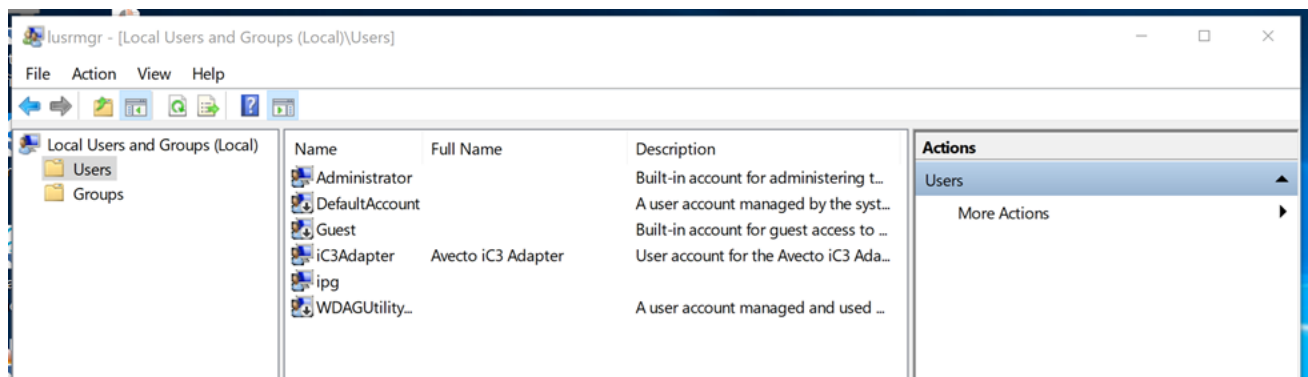

Figure 15: Local Users Folder
3. With the Local Users and Groups window open, open the "Users" folder (see Figure 15).